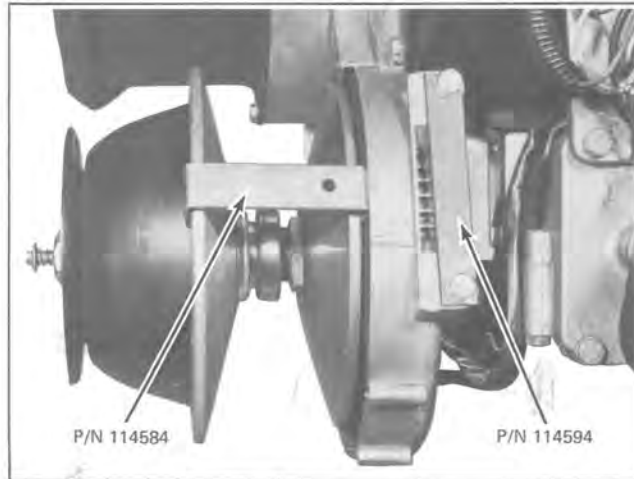

Figure 9-3
- d. Remove manual starter and install flywheel holding tool part no. 114594. See Figure 9-3.